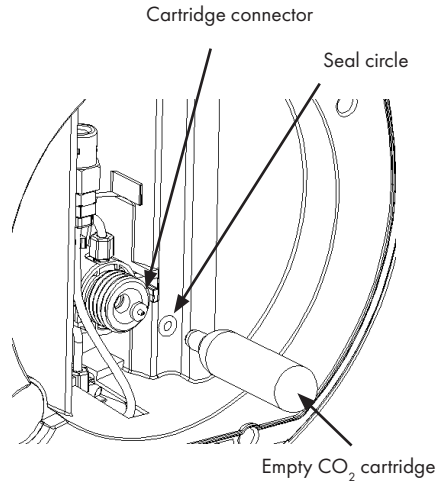

Figure 25
2. Install a new cartridge pierced probe in the regulator (leave the sharp end outside toward), and install the seal washer (Show as figure 25). Don't remove other parts of regulator in the replacing process.